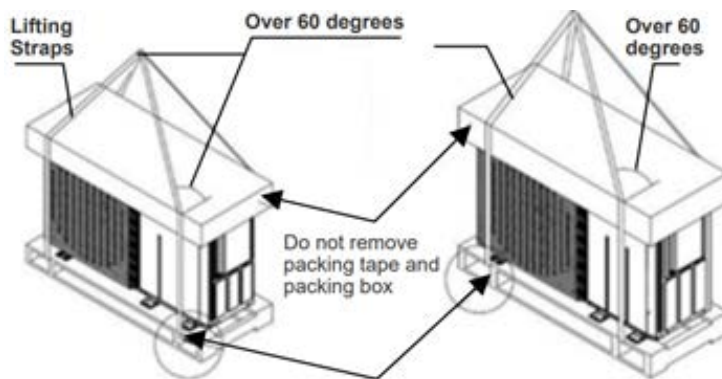

Figure 3-1: Hoisting Method
4. Lift unit with straps attached to four points to minimize pressure applied to jacket. Refer to Figure 3-1 for proper lifting method.